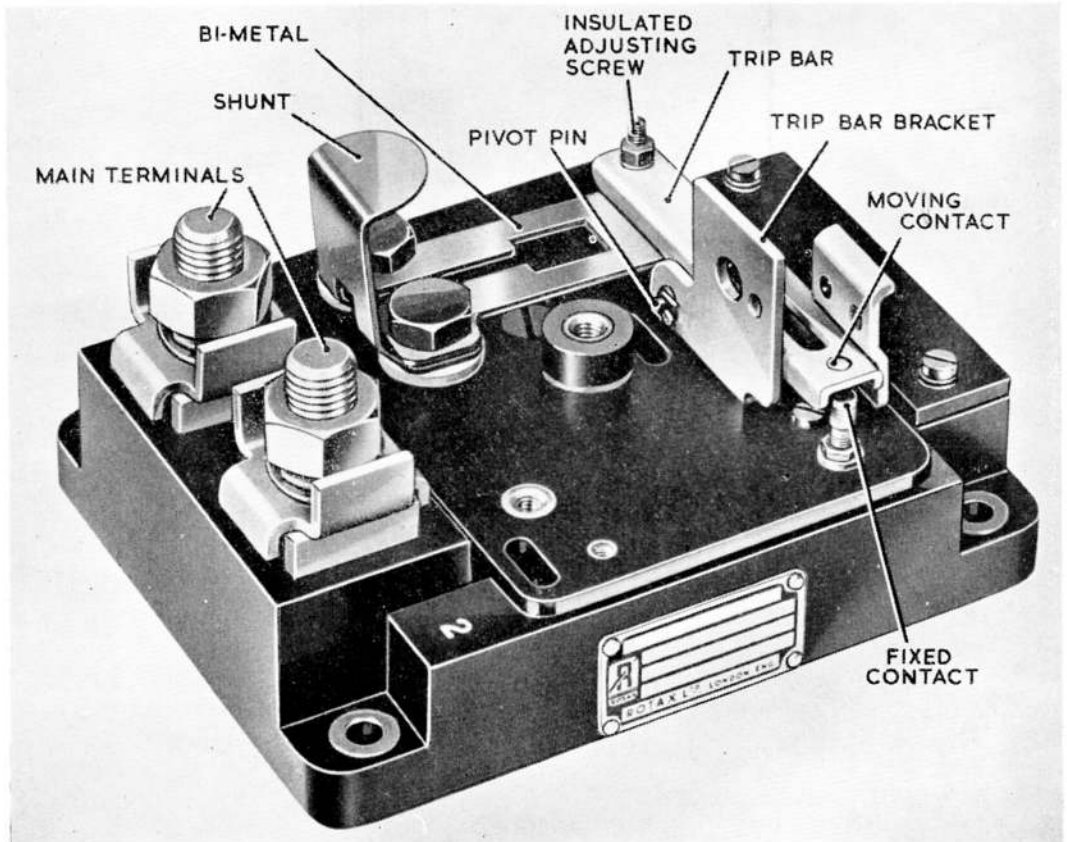

Fig. 1. Type 1A, No. 2, thermal switch (cover removed)
2. The Type 1A, No. 2 thermal switch (fig. 1) is identical to that described in A.P. 4343, Vol. 1, Sect. 11, Chap. 7. The unit is continuously rated and will give satisfactory operation at altitudes up to 50,000 ft. and in air temperatures between  $-65$  deg. C and  $+50$  deg. C.